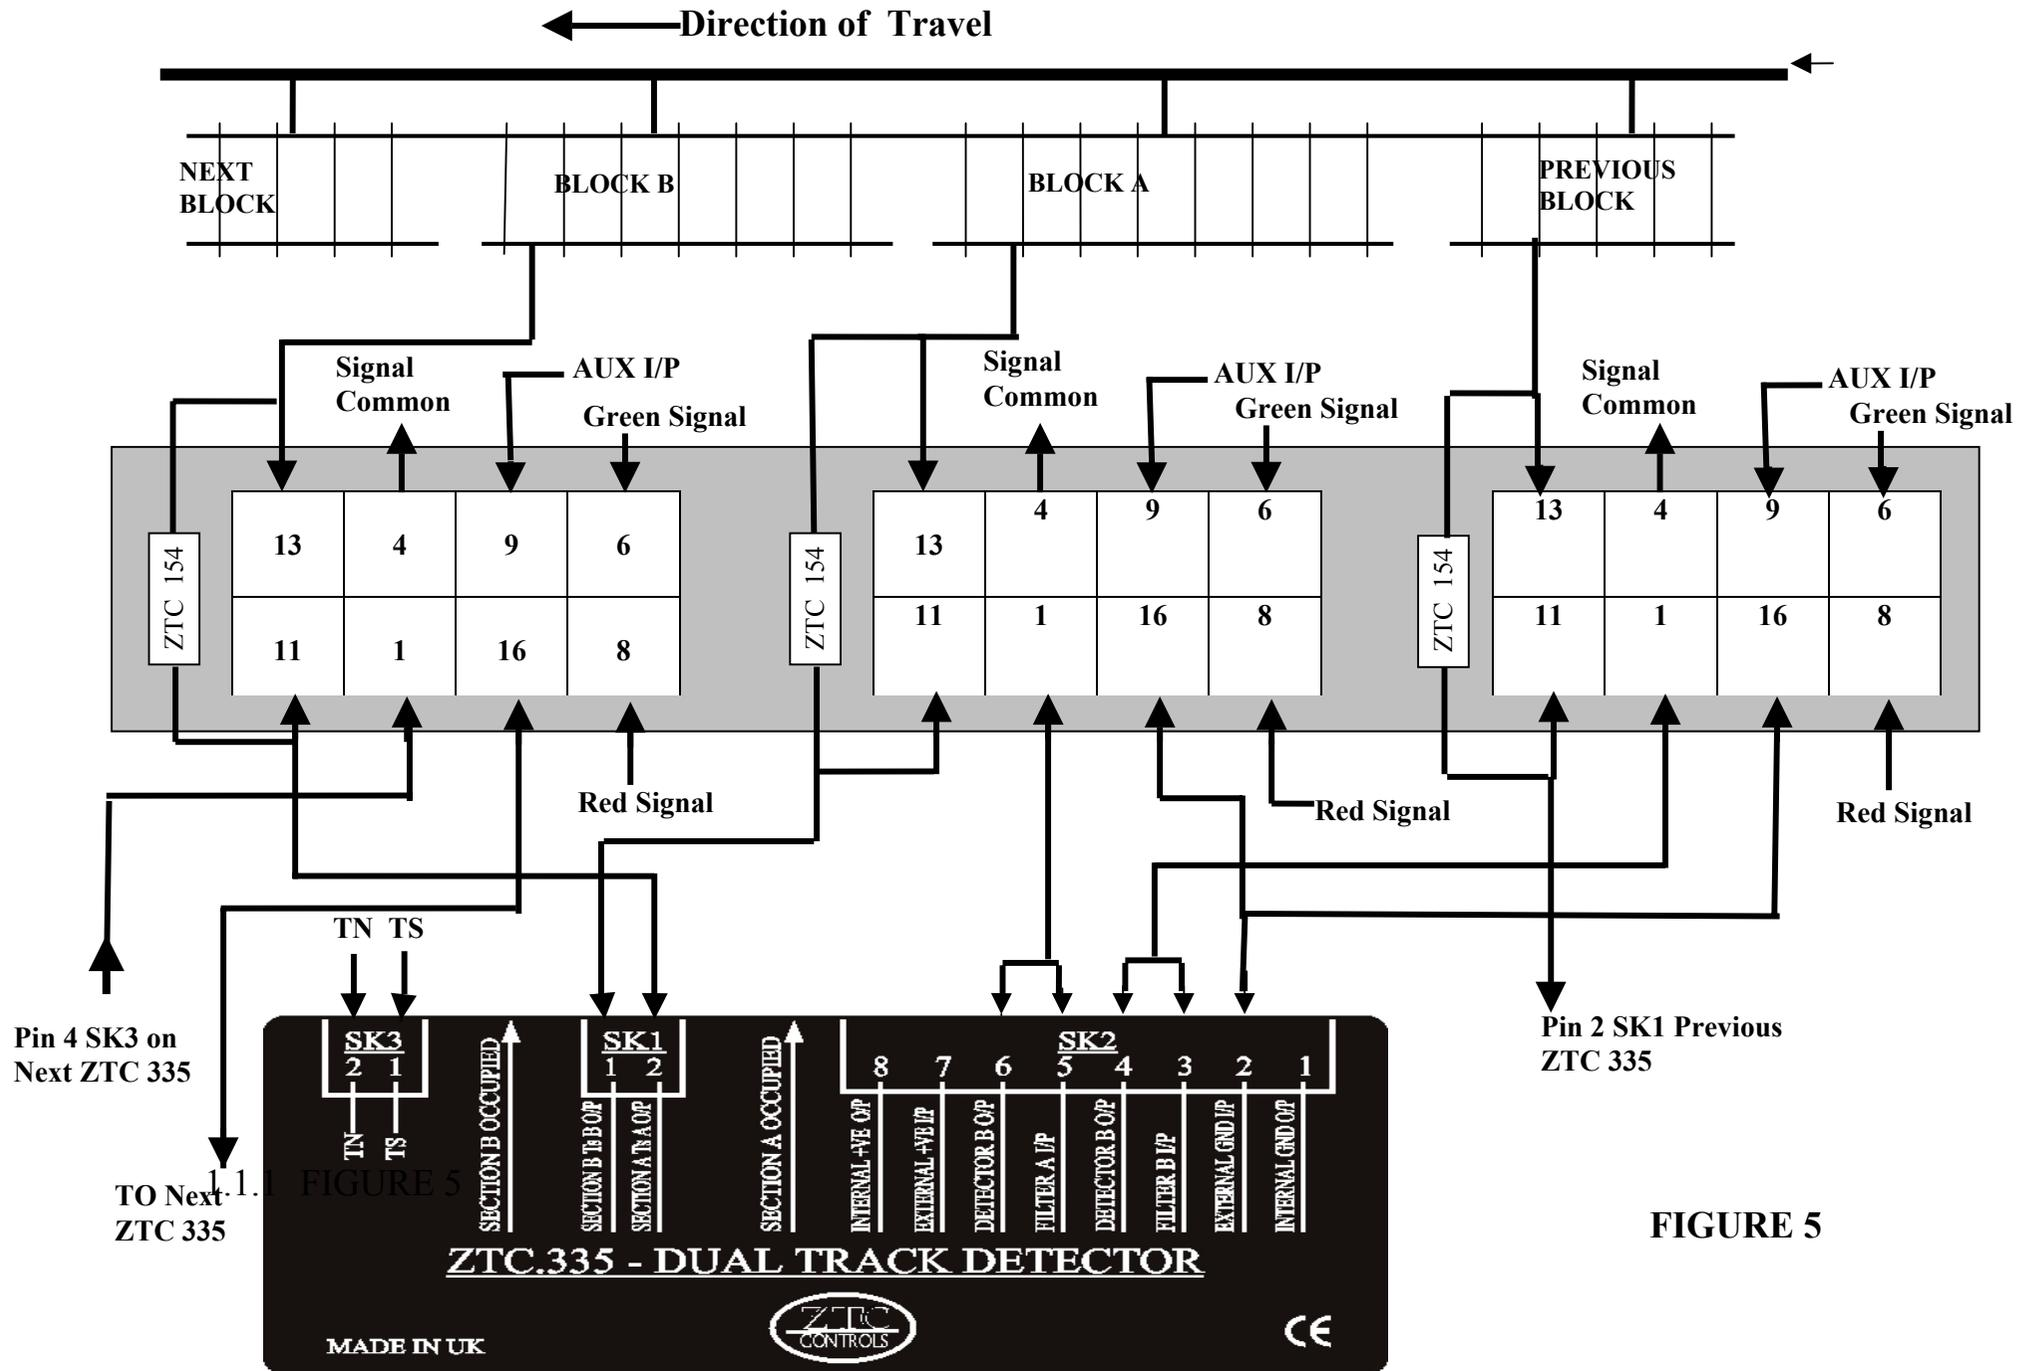

FIGURE 5
- 6.2 Using Figure 5 as a guide, install the circuitry to provide a modified Auto Stop facility on Block sections A, B, NEXT BLOCK etc. of the track-work. This is achieved by again using a Relay Switching kit, (Part number ZTC 336) in the positions shown.
- 6.5 The sequence of events is as follows. A locomotive or train travelling from Right to Left of Fig 5 moves from the previous Block to Block A. Providing no locomotive is present in Block B then the locomotives movement will not be halted. The locomotive can continue to move into each successive Block.
- 7.1 In Figure 4 pin 11 of RL1 and in Figure 5 pin 9 of each relay shows an Auxiliary (Aux) connection. This allows for alternative methods of bringing a Locomotive/Train to a controlled halt. Alternative power sources such as Breaking or Stopping generators can be used in this instance. The main advantage of this style of controlled stopping is that providing the Block section is long enough, the train driver can ignore the locomotive once it is set in motion. Relying on the breaking control system to automatically bring the locomotive to a controlled slow stop. Once the road is free, the Breaking generator will allow the Locomotive/Train to accelerate away, all without driver intervention.